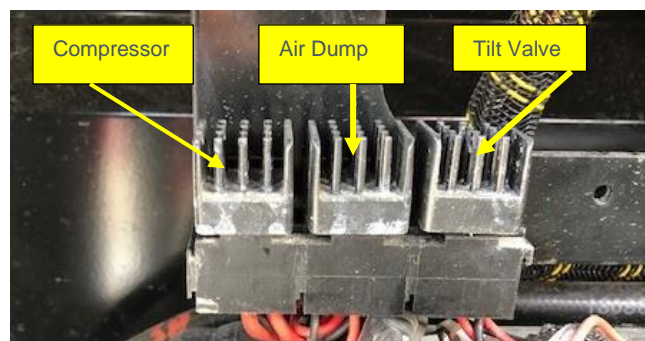

Figure 159
2. All three relays are the same and operate the same way. Figure 159